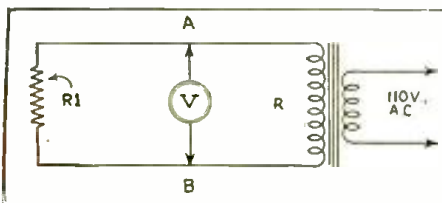

Fig. 1
As an example of how this equation can be used in practice, take the case of the transformer shown in Fig. 1. The value, e , measured at points AB without load, is found to be 320 V. The value, R , as measured with an ohmmeter, is 400 ohms, which is its D.C. resistance; however, it was found that at 60 cycles, the difference between this value and the A.C. impedance is negligible and hence the error introduced was of no consequence. Resistor R_1 is a voltage divider of 6,000 ohms resistance. What we want to know is: what will be the transformer voltage with this 6,000 ohm load? Substituting the above values in equation (1) gives —300 V.